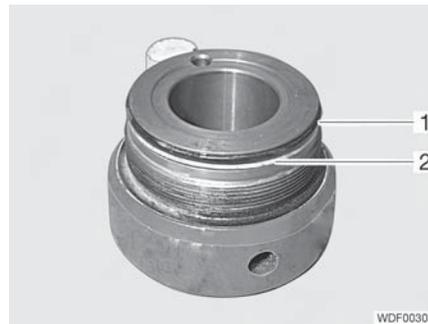

Fig. 107 Inside of the guide bush
- Remove the O-ring (Fig. 107,1).
- Remove the support ring (Fig. 107,2).
- Insert the support ring (Fig. 107,2).
- Insert the O-ring (Fig. 107,1).